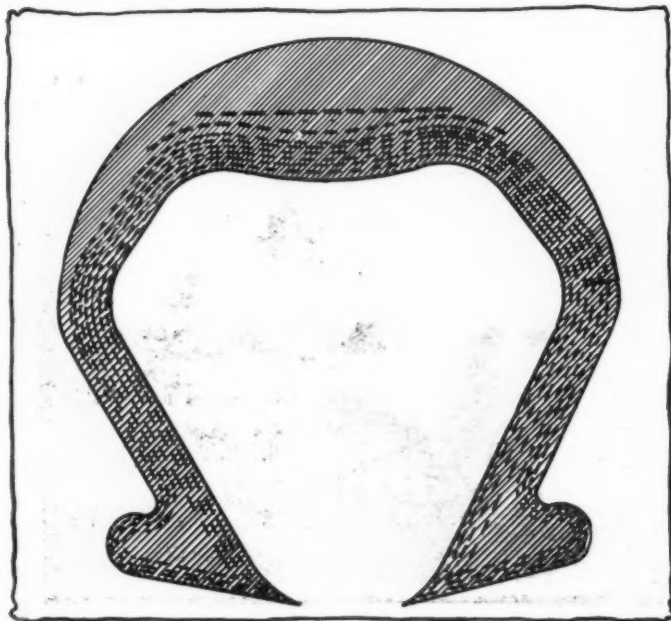

Fig. 1—Sectional view of wear-compensating casing
**A**NTICIPATING the wear a casing is bound to undergo, the M and M Tire Company, Inc., Trenton, N. J., has designed a casing, Fig. 1, in which the inner surface section of the tread portion is shaped convex. This form of the casing compensates for the wear in the following manner: As the tread wears off, the convex section is pressed outward by the inflated inner tube and gradually assumes a flat and then a concave surface. The convex side portions of the casing are so designed in order to counteract flexure, which is very great along the side of the casing. The tire casing is made, according to its manufacturer, of the best grades of rubber and cotton fabric, and is guaranteed to last and serve for from 5,000 to 8,000 miles.